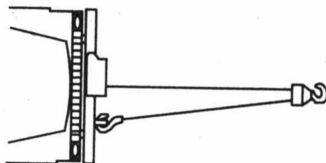

Figure 15
1. Double line with a pulley block (see Fig.15) to reduce the load on the winch, wire rope and battery. Double lining will also reduce winch line speed. Be sure all equipment used meets the winch's maximum line pull rating. When double-lining, pulley blocks should be rated to a minimum of two times the winch's line pull rating.